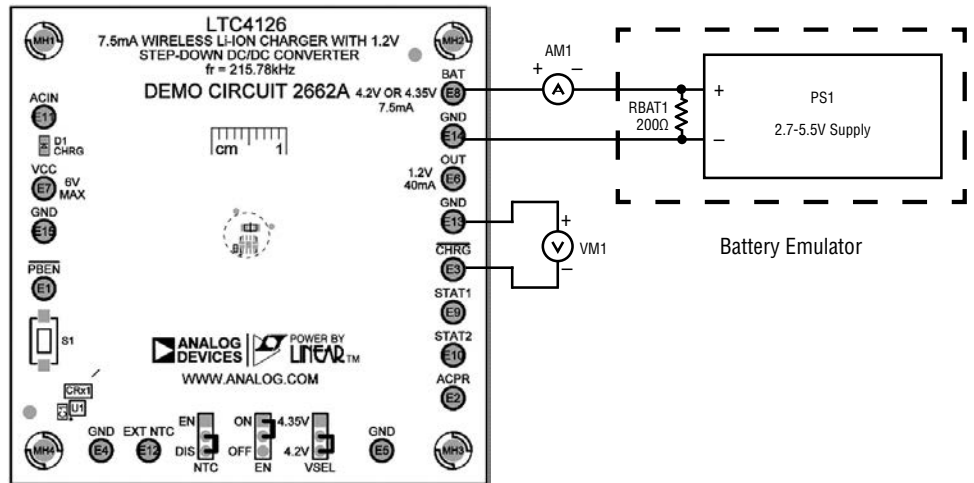

Figure 5. DC2662A Top
Refer to Figure 5 and Figure 6 for the proper measurement equipment setup, DC2662A mounting on DC2661A, and follow the procedure below:
2. Connect a voltage source PS1 and a 200 Ohm resistor RBAT1 between the BAT and GND terminals DC2662A.E8 and DC2662A.E14, respectively (Figure 5). PS1 and RBAT1 make up the battery emulator. Typical power supplies cannot sink current. By adding a resistor across the power supply inputs that draws more current than the maximum battery charging current, the power supply only sources current even when the battery charge current is at its maximum value.
The WPT for the LTC4126EDC is implemented as resonant power transfer, with the LTC4126EDC rectifying the resonant tank voltage to generate  $V_{CC}$ . The LTC4126EDC keeps the voltage at  $V_{CC}$  always within 5-5.5V when regulating received power from the WPT transmitter. When the  $V_{CC}$  voltage reaches a maximum of 5.5V, an input shunt is activated that diverts the received power. When the voltage at  $V_{CC}$  drops to 5 Volts, the shunt is deactivated, and the power is delivered and rectified through ACIN again until  $V_{CC}$  rises to 5.5V (see Figure 5).